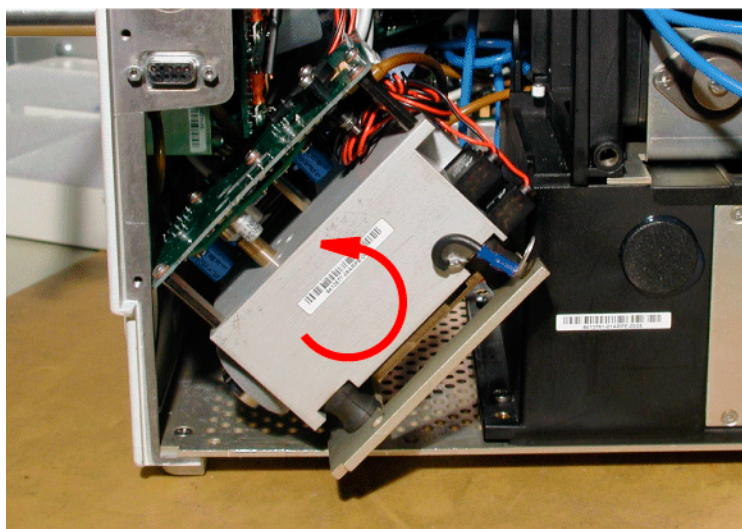

Figure 14 Turning the valve block
14. Pull out the valve block a little and turn it 90° counter-clockwise (Figure 14).